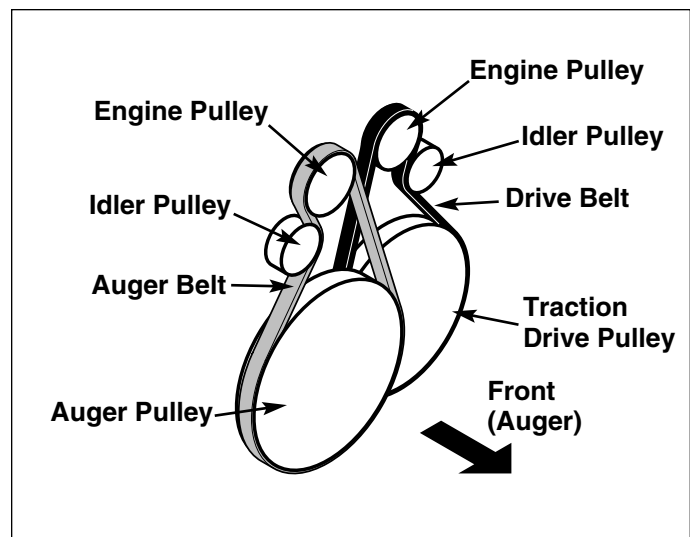

Figure 22. Drive Belt Paths
The snowthrower is equipped with two drive belts located just in front of the engine under the belt cover. Figure 22 shows both belts and idler pulleys. The belt nearest the engine is the unit traction drive (wheels) belt. The belt farthest from the engine is the auger/impeller drive belt.
3. Pull the traction drive belt idler pulley arm (See Figure 22) away from the belt to relieve tension, and slide the belt off the engine pulley.